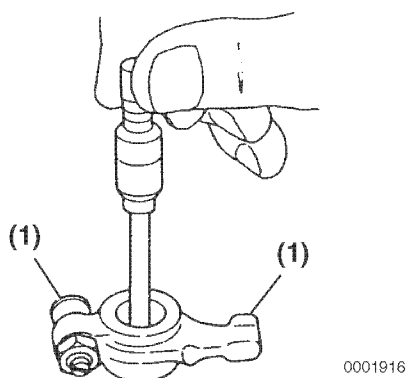

Figure 6-15
Use a telescoping gauge and micrometer to measure the inside diameter of the rocker arms (**Figure 6-15**). See *Rocker Arm and Shaft* on page 6-7 for the service limit. Record the measurements.
Inspect the contact areas (**Figure 6-15, (1)**) for excessive wear or damage.